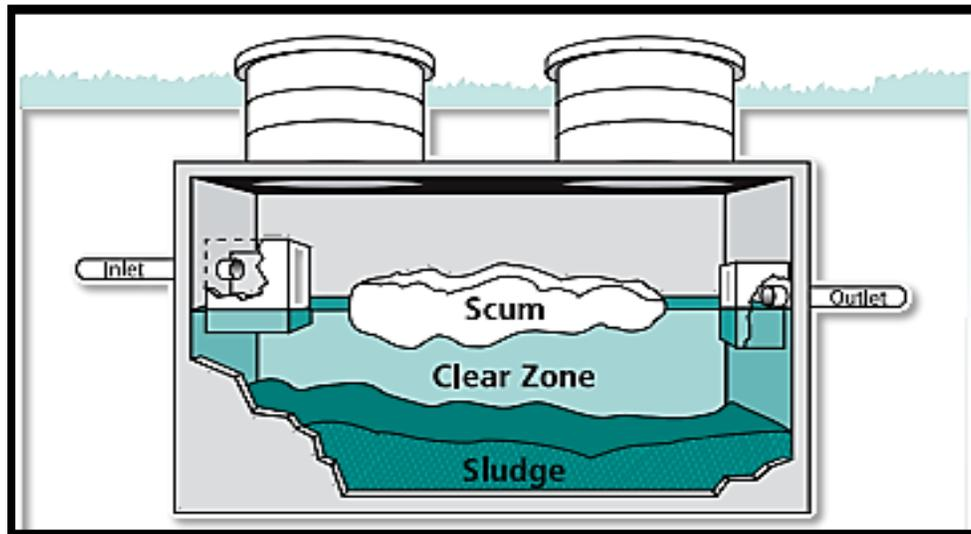

Figure 1.: Three Layers Form in a Properly Operating Septic Tank
- ☑ The settled solids are called sludge, the floated solids are called scum, and the liquid layer in between is called the clear zone as shown in Figure 1.